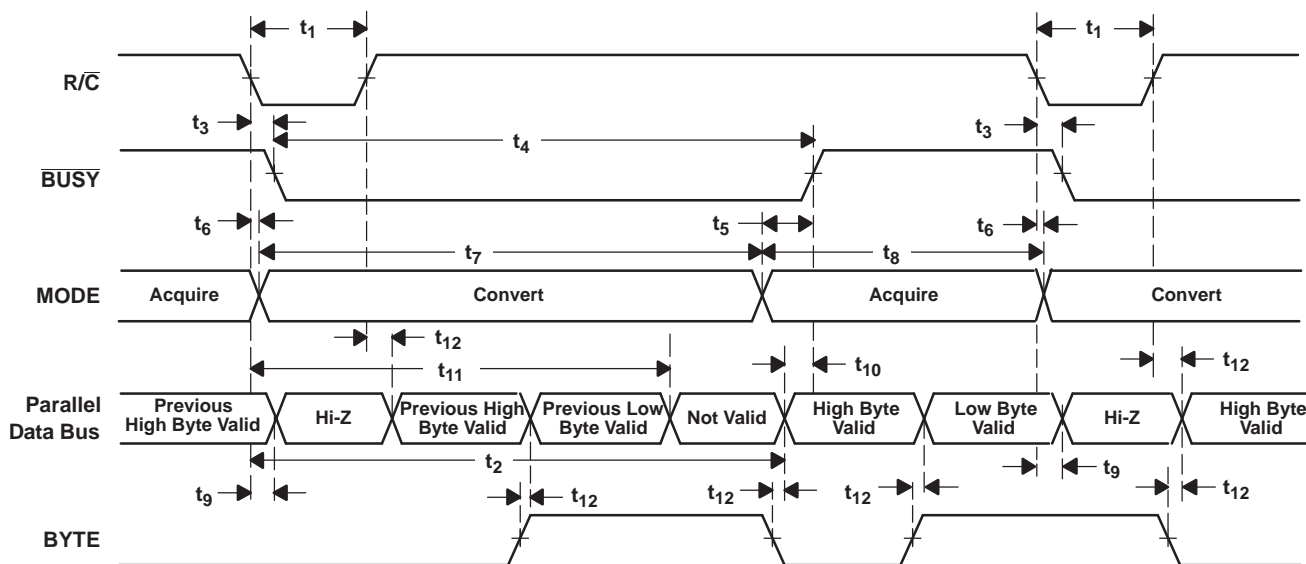
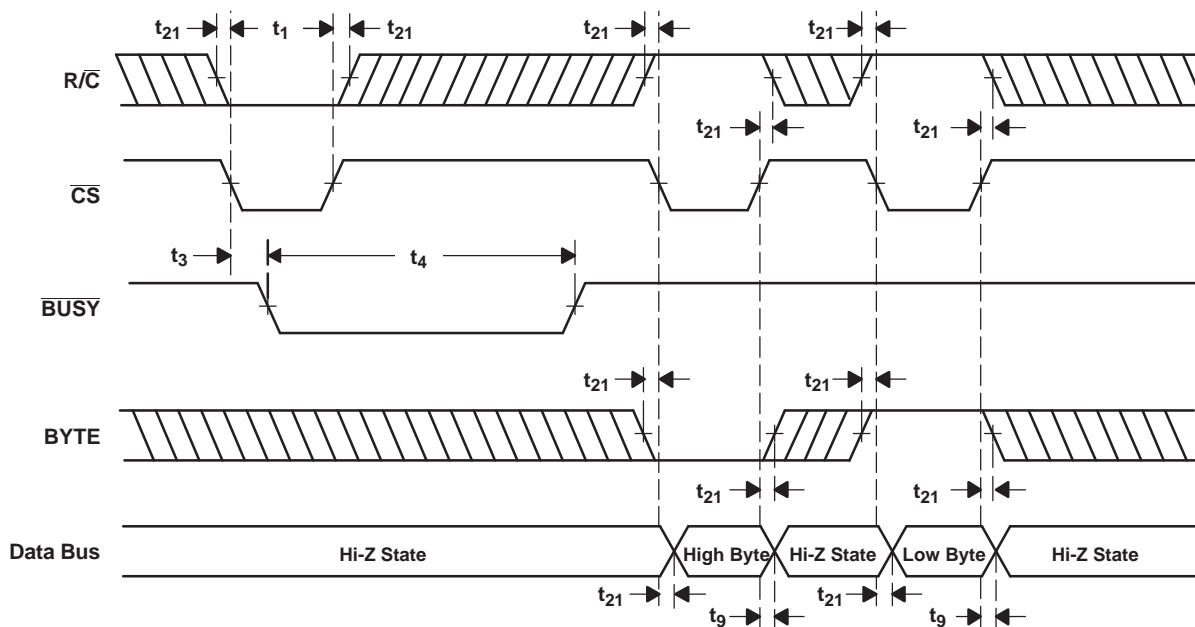

Figure 30. Conversion Timing With Parallel Output ($\overline{\text{CS}}$ and DATACLK Tied Low, EXT/INT Tied High)
Figure 31. $\overline{\text{CS}}$ to Control Conversion and Read Timing With Parallel Outputs
The ADS8517 begins tracking the input signal at the end of the conversion. Allowing 5 μs between convert commands assures accurate acquisition of a new signal. Refer to Table 2 and Table 3 for a summary of $\overline{\text{CS}}$, $\overline{\text{R/C}}$, and $\overline{\text{BUSY}}$ states, and Figure 30 through Figure 36 for timing diagrams.
(1) See Figure 30 and Figure 31 for constraints on data valid from conversion $N-1$.
After conversion *N* is completed and the output registers have been updated, $\overline{\text{BUSY}}$ (pin 24) goes high. Valid data from conversion *N* are available on D7-D0 (pin 9-13 and 15-17). $\overline{\text{BUSY}}$ going high can be used to latch the data. Refer to Table 5, Figure 30, and Figure 31 for timing specifications.
After conversion N has been initiated, valid data from conversion $N-1$ can be read and are valid up to $2.2\ \mu\text{s}$ after the start of conversion N . Do not attempt to read data beyond $2.2\ \mu\text{s}$ after the start of conversion N until $\overline{\text{BUSY}}$ (pin 24) goes high; doing so may result in reading invalid data. Refer to Table 5, Figure 30, and Figure 31 for timing constraints.